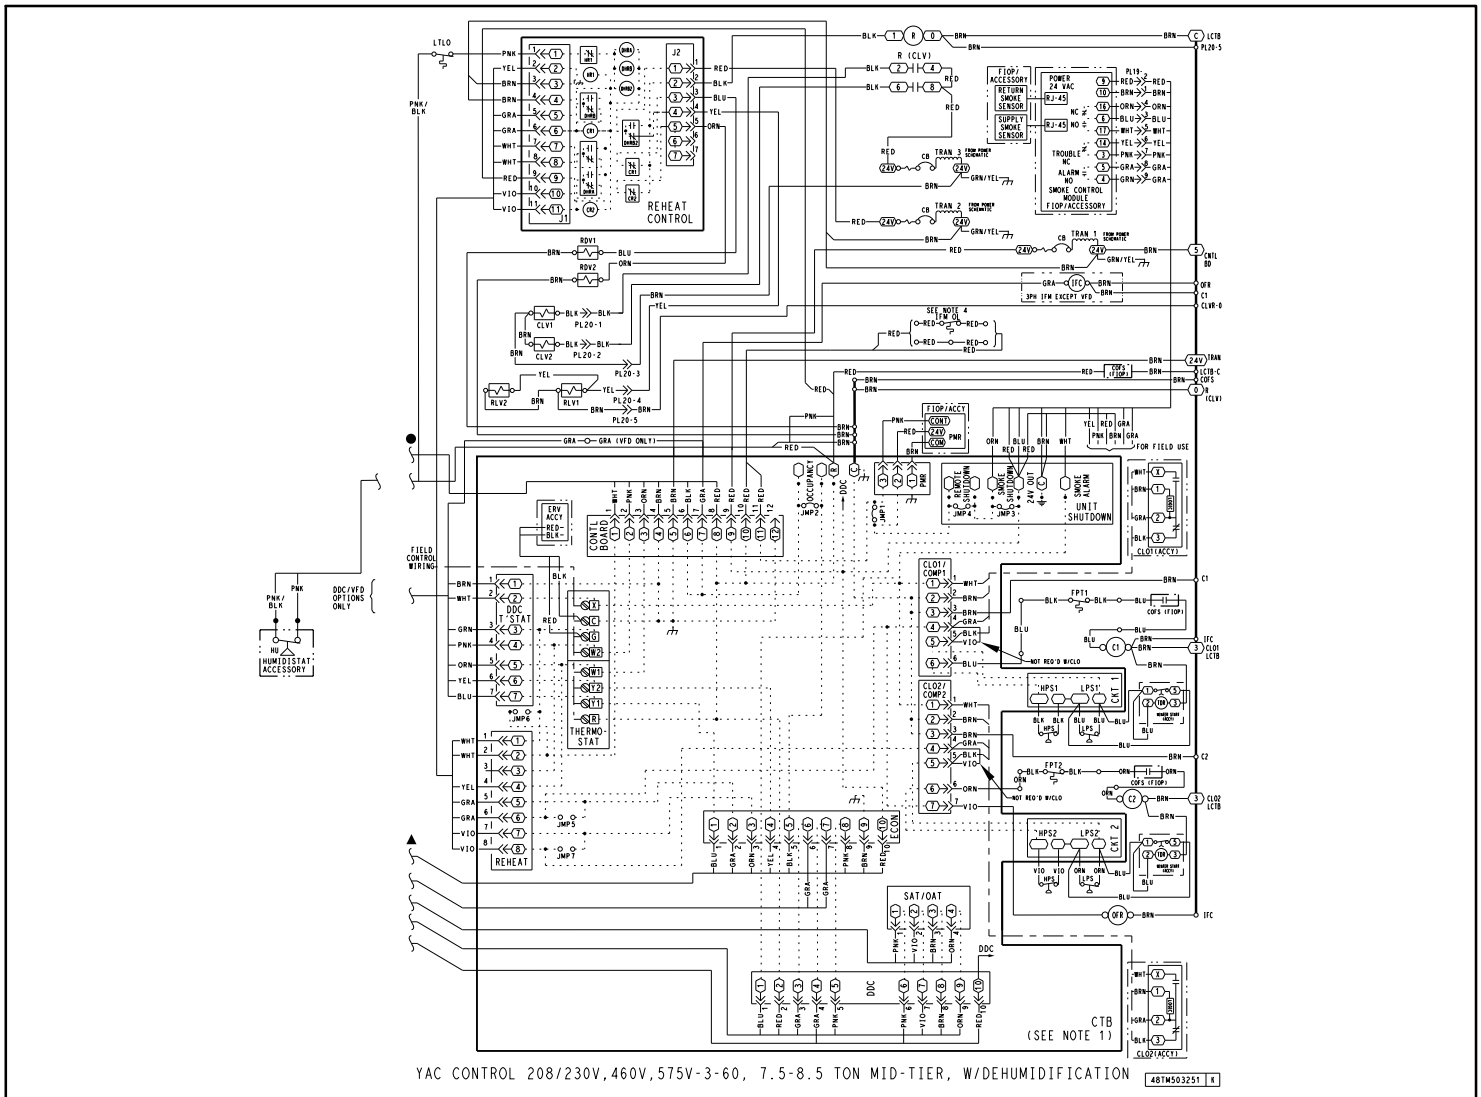

FIGURE 34 – Typical Hot Gas ReHeat Adaptive Dehumidification System Humidistat Wiring
3. Use wire nuts to connect humidistat cable to the leads in the low-voltage wiring (as shown in FIGURE 34), connecting PKN to PNK and PNK/BLK to PNK/BLK.